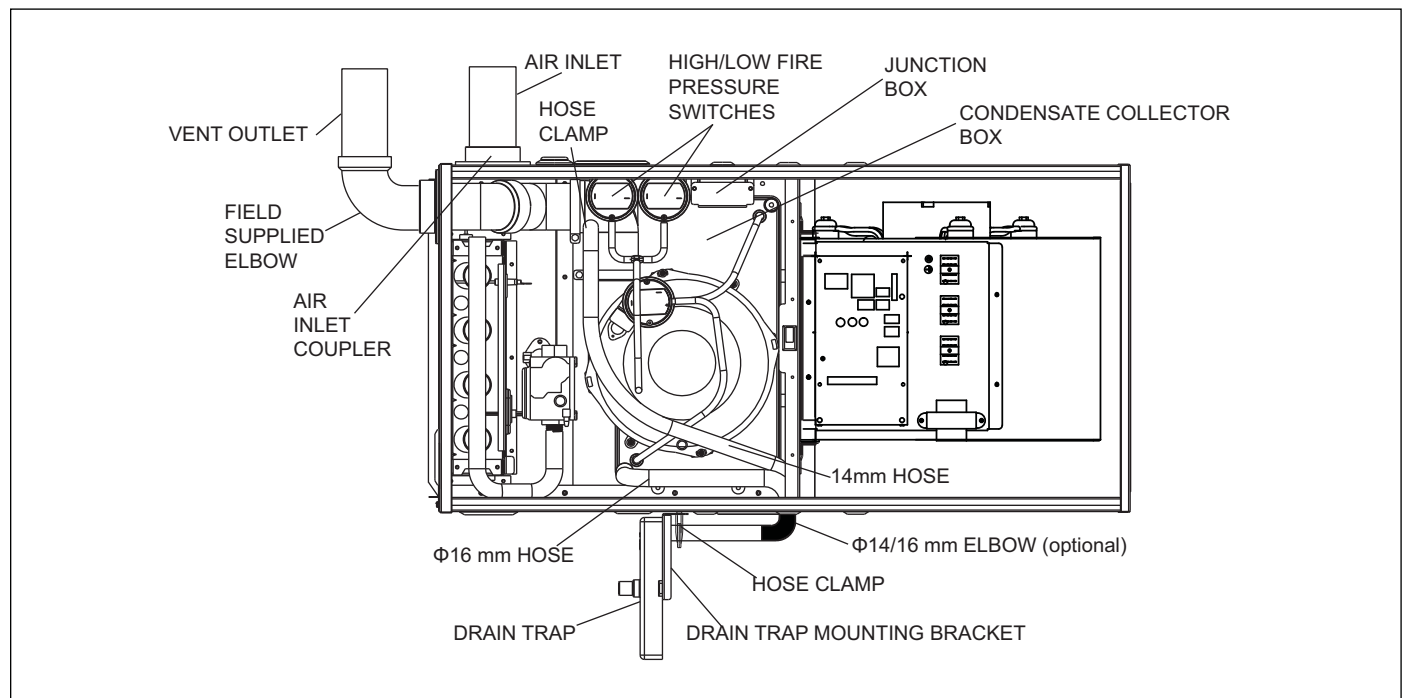

Figure 16 Horizontal Left Side Installation, Vent Through Top Panel
**For installations with left air discharge and venting outlet through furnace top panel (see Figures 16 and 17).**
9. Connect 14 mm hose between the side inducer drain port (remove black rubber plug to connect hose) and drain trap. Refer to Figure 16.
14. Relocate the High/Low Fire Pressure Switches (2) to the opposite side of the cabinet (as shown in Figure 16 and 17). Screws for mounting these switches should not interfere with any components inside the furnace.